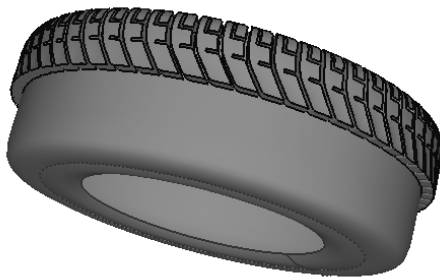

Figure 7-95 Duplicate copies of the grouped objects
6. Enter **0, 0**, and **6** in the respective **Rotation** edit boxes and then choose the **Go** button; duplicate copies of grouped objects are created, as shown in Figure 7-95.